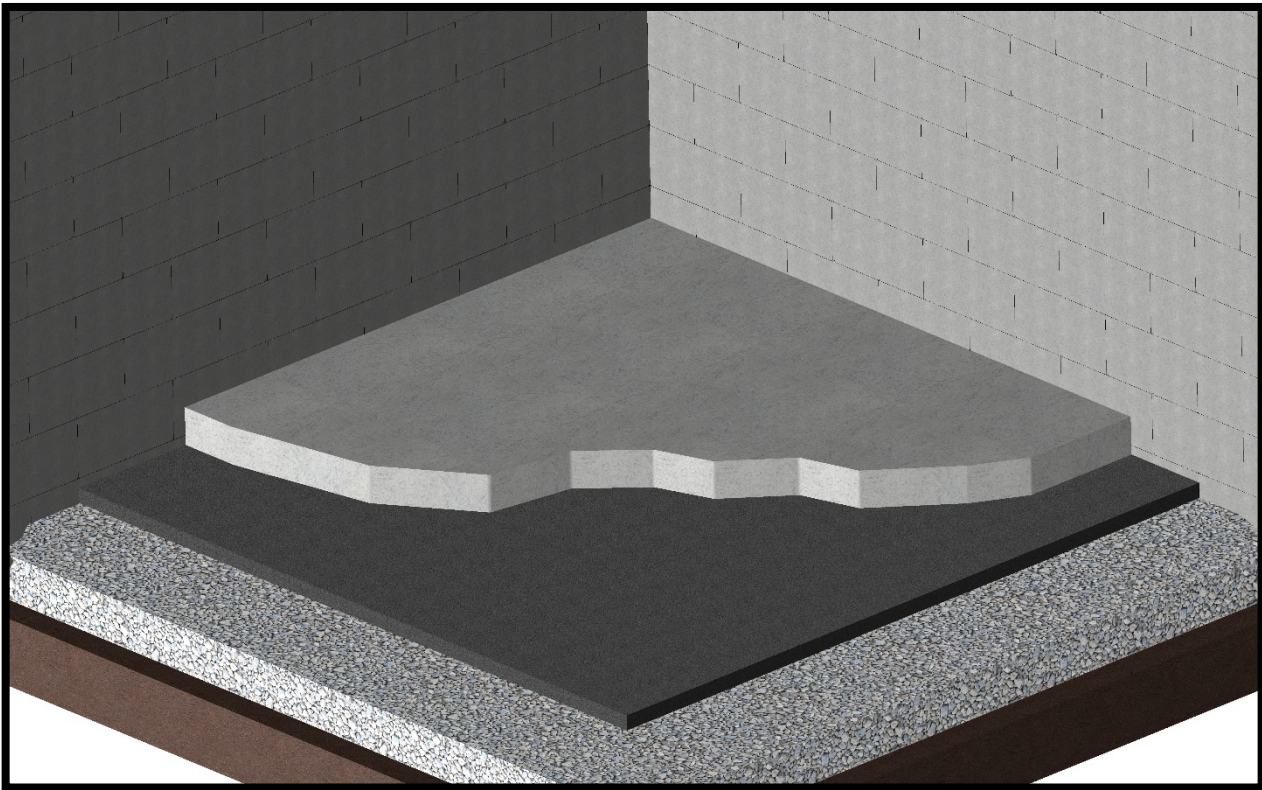

Figure 1 Illustration does not depict a Vapor Barrier
- 6.2 Install the insulation board on the level surface. **Figure 1**